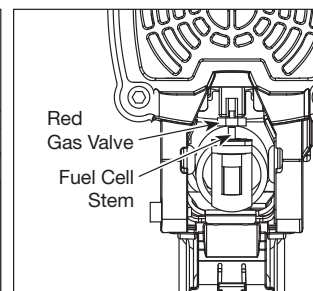

Figure 12
3. Insert the stem of the metering valve into the small hole of the red gas valve. (See Figure 12).